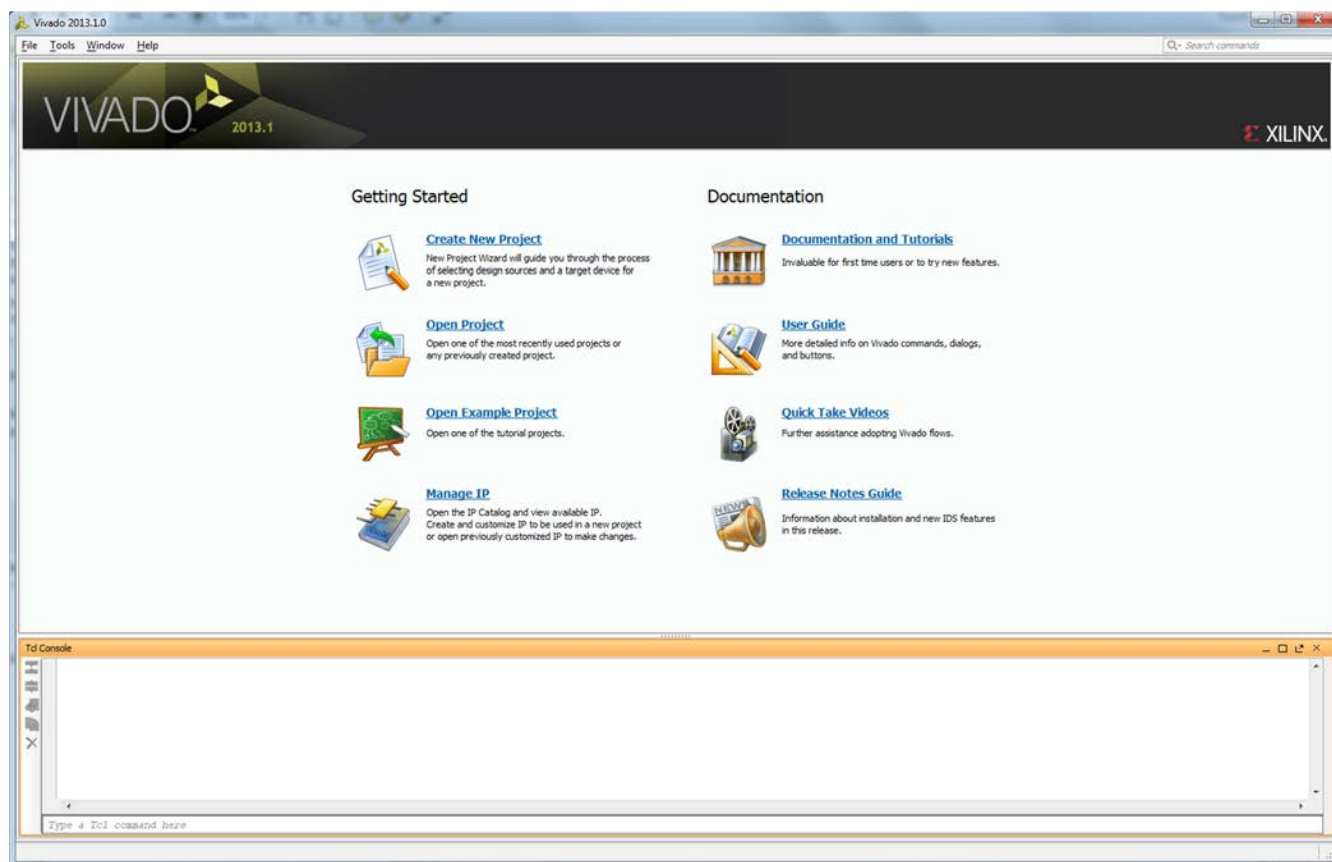
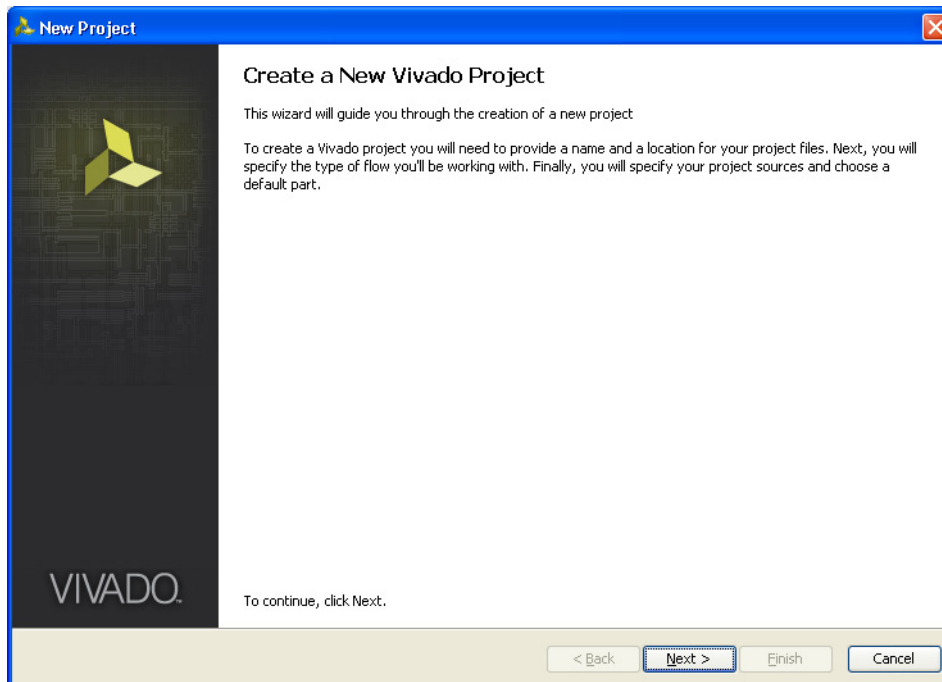

Figure 3-1: Vivado Tool
Figure 3-2: Create a New Vivado Tool Project
1. Invoke the Vivado IP (see Figure 3-1).
2. To create a new project, click the **Create New Project** option shown in Figure 3-1 to open the page as shown in Figure 3-2.